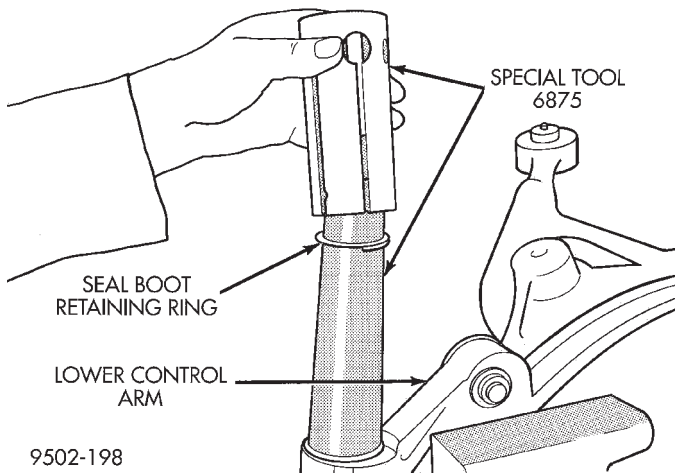

Fig. 83 Retaining Ring And Expandable Collar Installed On Tool
(5) Place seal boot retaining ring on Installer, Special Tool, 6875- 1 (Fig. 83). Then place expandable collar from Installer, Special Tool, 6875 over tapered cone of the special tool (Fig. 83).